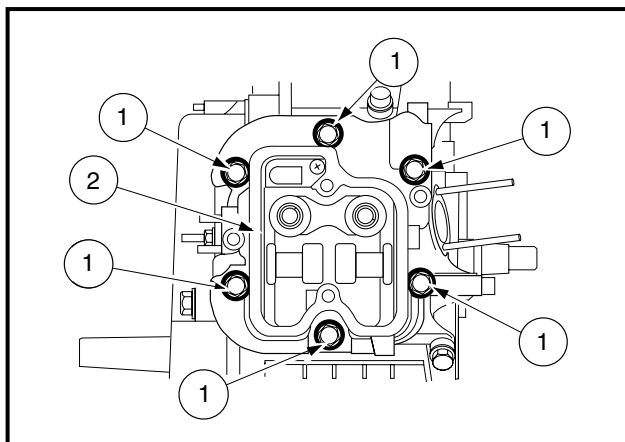

Figure 2-7 Cylinder Head
1. Remove the six bolts (1) and remove the cylinder head assembly (2) (**Figure 2-7, Page 2-7**).